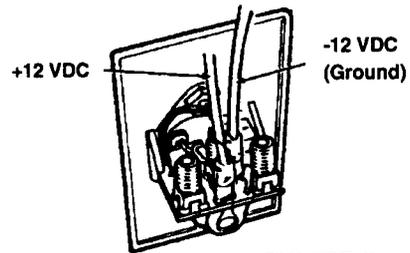
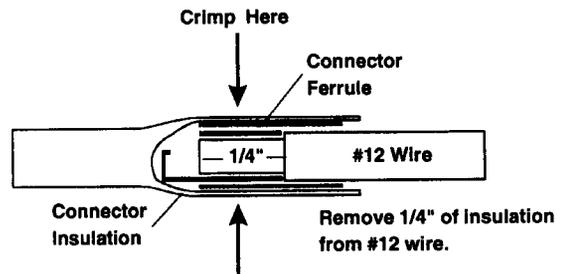
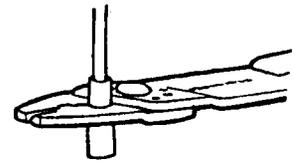
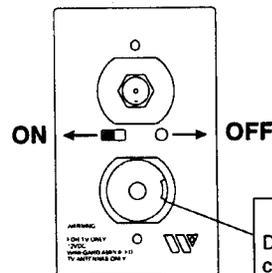

FIGURE 6
FIGURE 7
FIGURE 8
FIGURE 10
THE POWER SUPPLY SHOULD BE TURNED OFF WHEN CONNECTING CABLES/WIRES TO POWER SUPPLY. SEE FIGURE 10.
STEP 12: Make 12 volt connection to wall plate/power supply Figure 6. Install terminals on wires from +12 VDC source as shown in Figure 7. Crimp terminals with Craftsman type 4 crimping tool or equivalent. See Figure 8. Push wires onto tabs on terminal board as shown in Figure 6. If in doubt as to the polarity of the wires, connect them temporarily to tabs on circuit board and move switch on front of outlet to left, if light comes on polarity is correct. See Figure 10.
STEP 14: Mount power supply in wall with screws provided and attach TV set cable to jack on front of power supply/wallplate. Move switch on front of outlet to the left and check that light is on. See Figure 10.